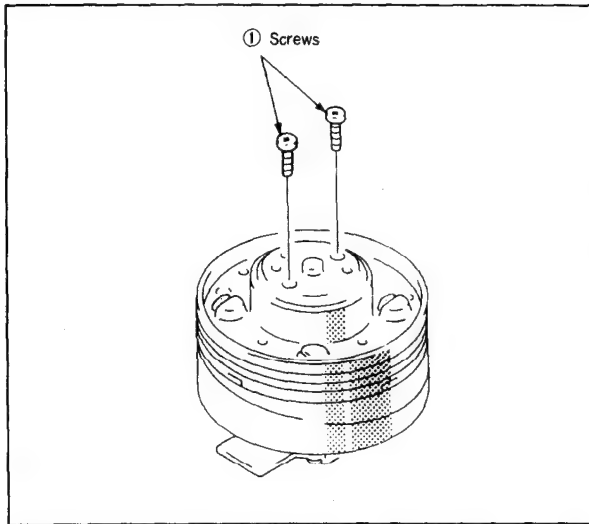

Fig. 28
- 1) Remove the two screws ① (Fig. 28).
- 3) Remove the jig ⑥ and push down the rotary upper drum ⑤ gently by hand. If it does not go all the way down, secure it temporarily by tightening the two screws ① alternately (Fig.28).
- 4) Tighten strongly both two screws ①, and loosen both screws once, then tighten them again (for stable seating).
- 5) Insert the jig ⑥ into the positioning hole ⑦ again and confirm that it goes in smoothly. If it does not, loosen the two screws ①, repeat step 2) of the Removal paragraph and restart the setting procedure.
- 6) Tighten the screws ①.